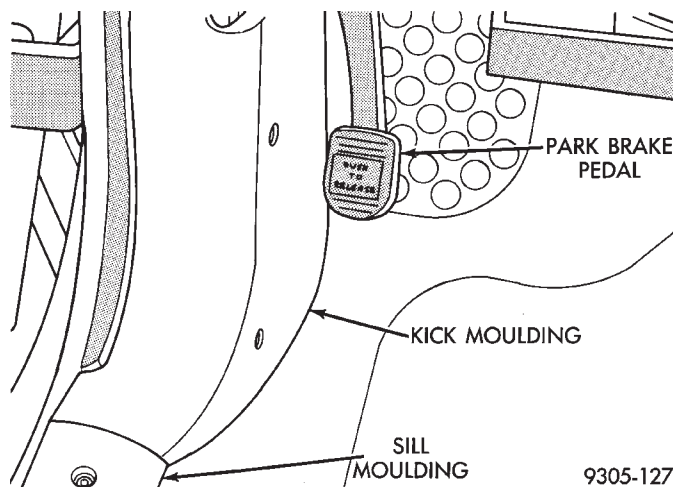

Fig. 96 Sill Molding And Kick Molding
(1) Remove drivers seat assembly from vehicle. Refer to group 23 Body in this service manual for required seat, removal procedure.
(2) Remove rear seat lower cushion from vehicle. Refer to group 23 Body in this service manual for required lower seat cushion, removal procedure.
(3) Remove drivers side door opening sill molding. Remove drivers side cowl kick molding to expose park brake pedal mechanism (Fig. 96).
(10) Install drivers side cowl area kick molding back in vehicle. Install drivers side door opening sill molding (Fig. 96).